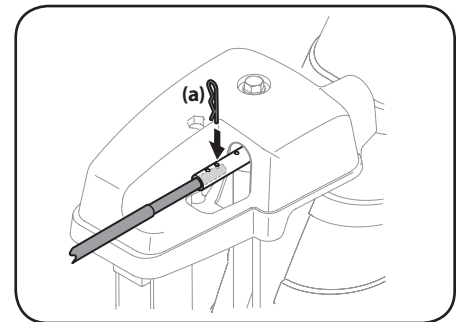

Figure 2-27
4. Push chute control rod toward the control panel until hole in rod lines up with middle hole in chute control input and insert cotter pin (a) removed in Step 1. See Figure 2-27.